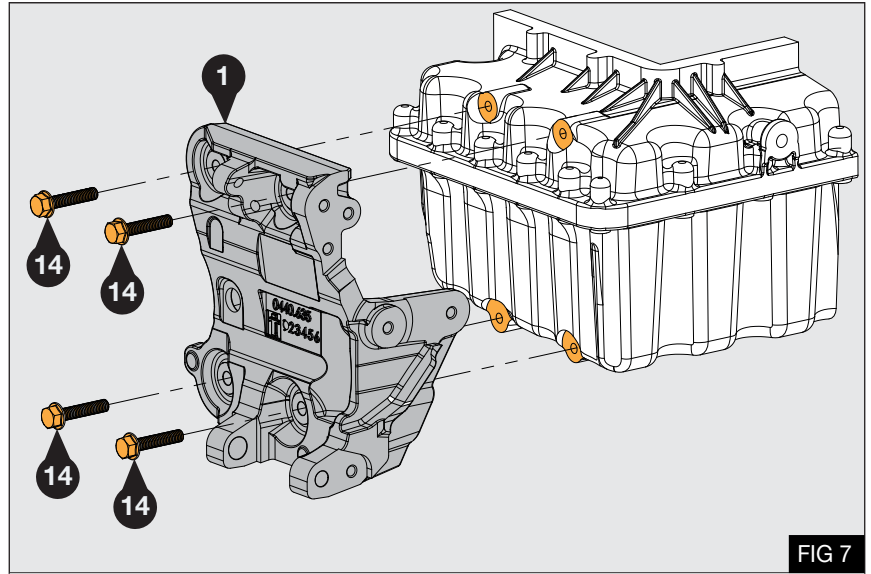

FIG 7
1. Fit supplied bracket (1) to oil pan using 4x M8 x 40 bolts (14) - Fig 7
- Torque bolts (14) to 22 lb ft / 30 Nm